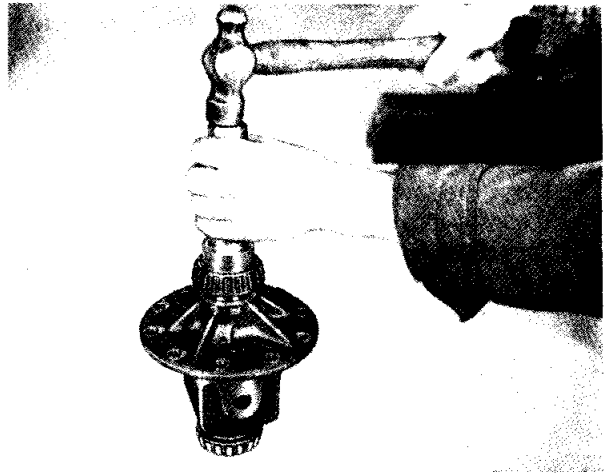

Fig. 27 Fitting differential bearings utilising the Churchill Tool No. M89 to the differential casing.
- (xiii) The differential assembly bearings are now fitted without, as yet, installing any packing shims. A suitable driver such as that which is shown in Fig. 27 should be used for driving the bearings on to the crown wheel carrier.
- (xxiii) Having fitted the two packs of shims in their respective positions the bearing inner cones are driven on to the carrier with a suitable sleeve tool as shown in Fig. 27 and the outer rings applied.